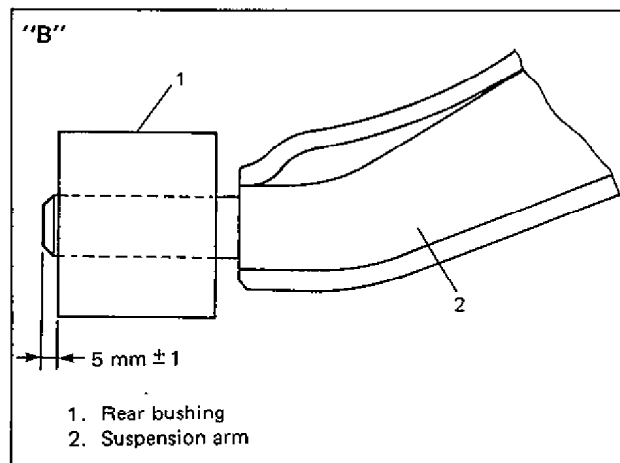

Fig. 3D-5-7
- 3) Fit suspension arm bracket to suspension arm in such direction as shown in Fig. 3D-5-9 and hand-tighten bracket nut lightly and then install suspension arm bracket to car body. At this point, tighten bracket bolt only lightly by hand.